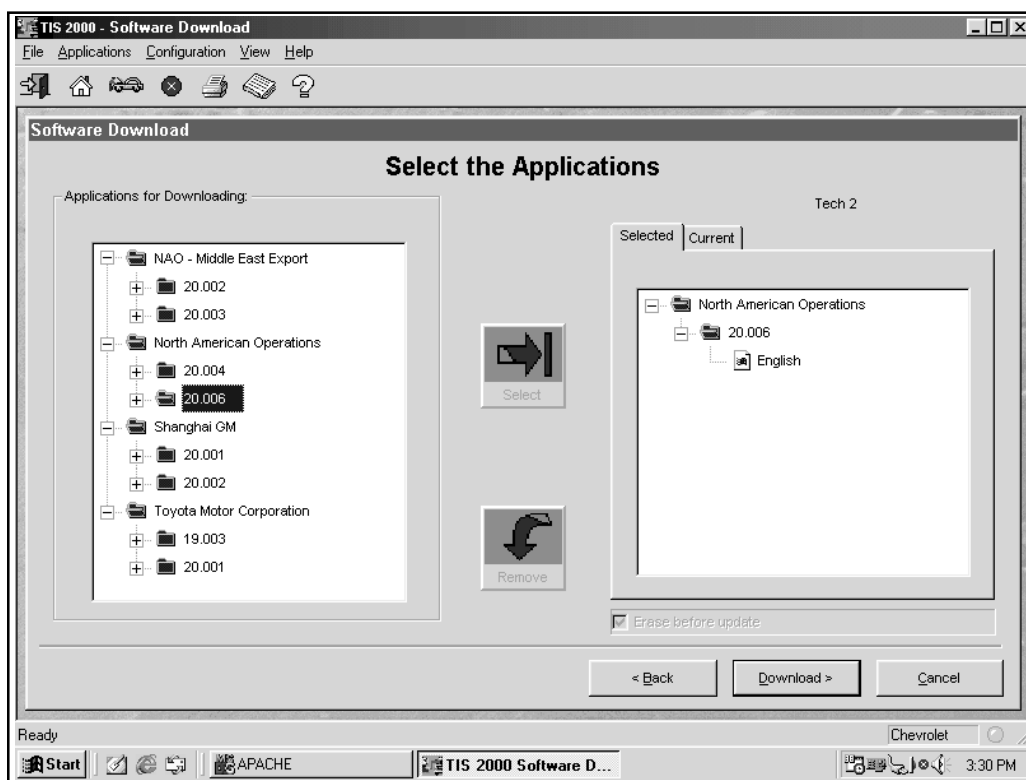
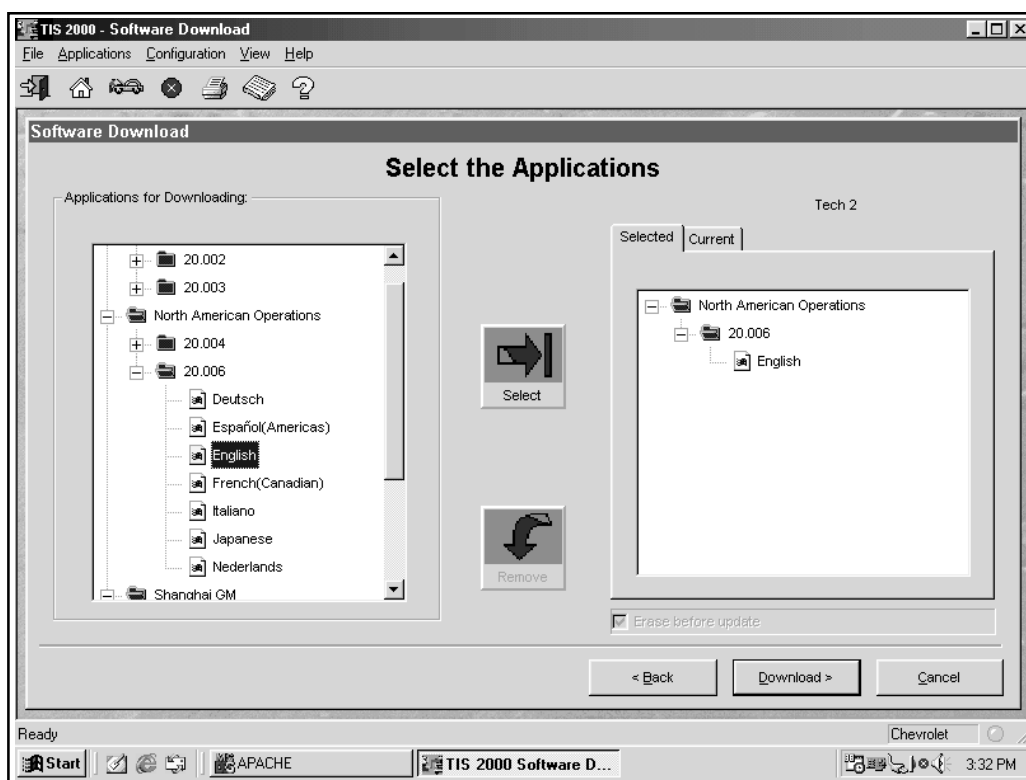
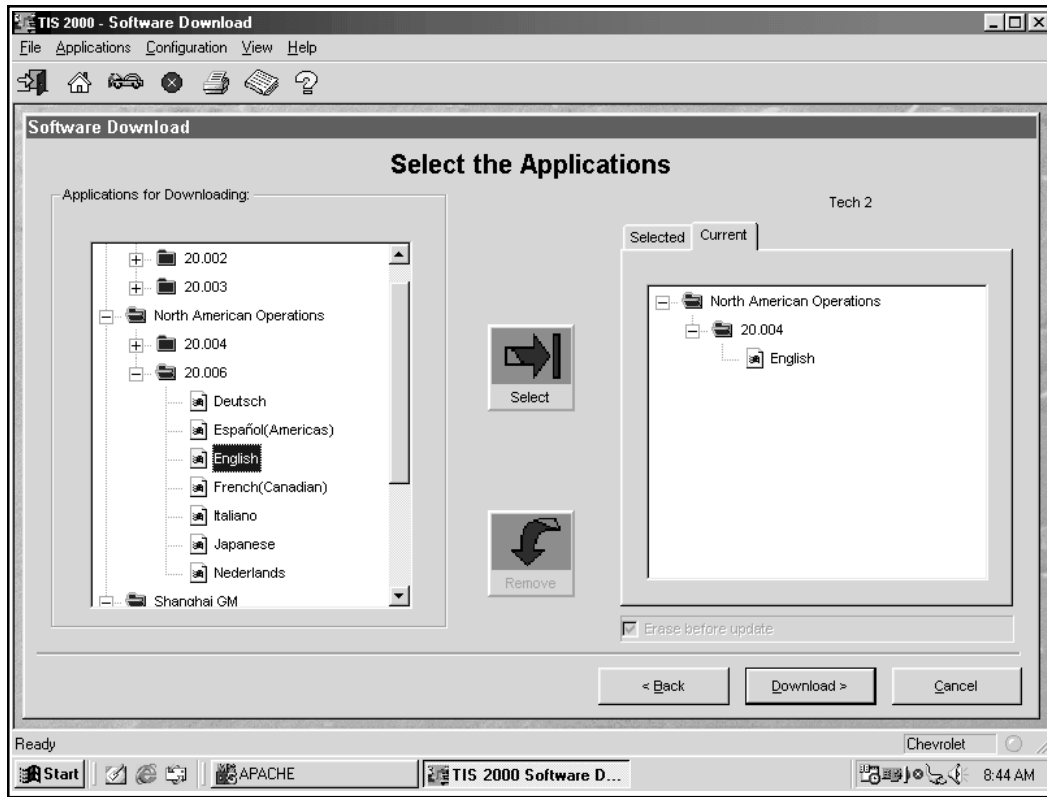

Figure I-60, Custom Download Selection
Figure I-61, Selecting Language File
Figure I-62, Comparing Current/Selected Software
6. A Select the Applications screen (Figure I-60) will appear. The left side of the screen lists software release numbers. Select the + sign to see a list of different languages for each release (Figure I-61).
7. Select the desired software version and language by either double-clicking or highlighting the desired language file, then click Select. The selected software will appear in the right side of the screen (Figure I-61). To compare the current and selected scan tool software, click on the tabs on the right side of the screen (Figure I-62). Click Download.